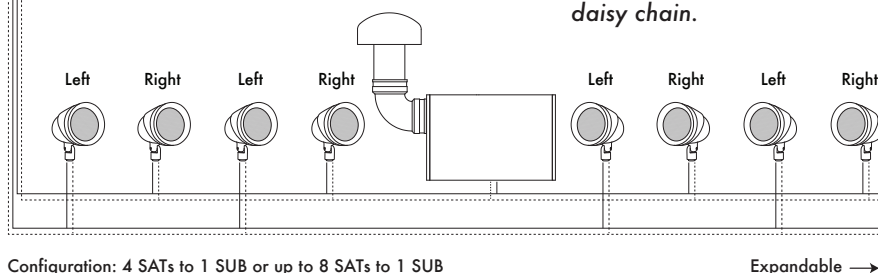

Figure 5
70 volt audio systems allow for speakers to be daisy chained together. In a typical system with one zone of audio you simply run a stereo or 4 conductor wire from the amplifier to the closest speaker. Once you have designated your first speaker as either left or right, continue alternating the wires between the left and right channels creating a daisy chain of stereo satellites. The Subwoofer can be wired anywhere in the chain. See Figure 5.
12. After all the speaker connections are completed, connect the wires to your amplifier. See Figure 5 for reference.